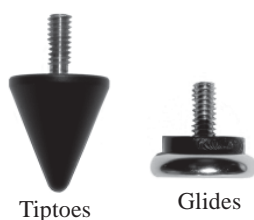

Figure 15
- Two sets of optional feet (eight Tiptoes and eight Glides) are supplied with the XRT28 Loudspeaker System. Refer to figure 15. To prevent crushing carpet use the Tiptoe Spikes; to protect non-carpeted flooring use the Chrome Glides. Both the Glides and Tiptoes have a threaded shaft and locking nut that screw into the tapped holes in the bottom of the XRT28's base rails. The feet can be independently adjusted to compensate for uneven flooring.